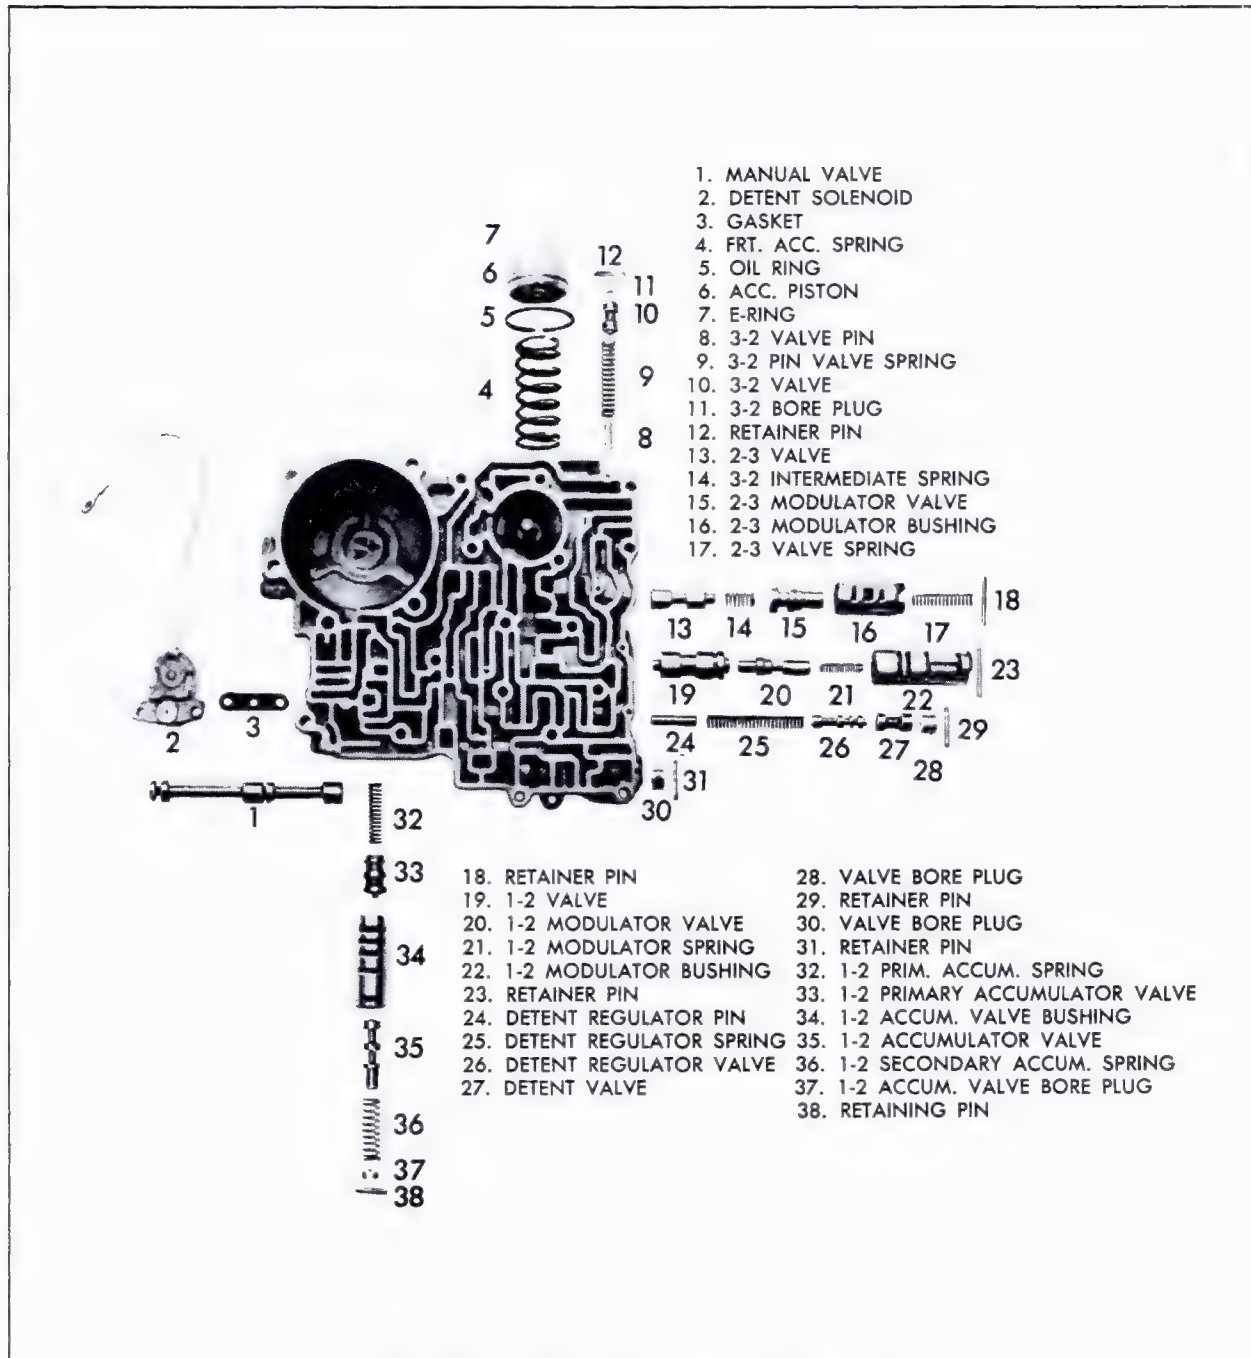

Fig. 7-220 Control Valve Assembly Disassembled
i. Control Valve Assembly (Fig. 7-220)**1. Disassembly**
3. Assembly (Fig. 7-220)